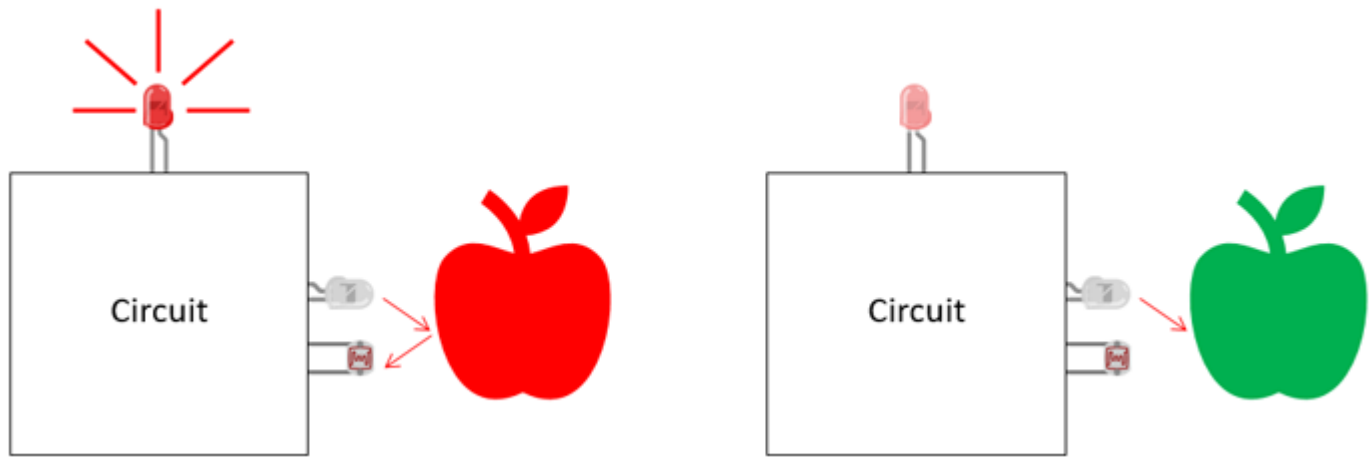

Figure 5. Concept for a color-detecting circuit to separate ripe (red) and unripe (green) produce.
In this section, you will use the information you learned in the previous section to build a circuit that can differentiate between red and green produce. It will light a second LED when red produce is placed in front of it, and the LED will stay off when green produce is placed in front of it (Figure 5). You will need to make some adjustments to get the circuit working perfectly. See the technical note for a more detailed explanation of how the circuit works (you do not need to fully understand how the circuit works in order to complete the project).
3) Your goal is to adjust the circuit such that the diffused red LED will *only* light up when you hold a piece of red produce in front of the clear red LED and photoresistor, but not when you use a piece of green produce, as shown in Figure 5. This lets you quickly identify whether a piece of produce is ripe just by looking at the LED. You can imagine how such a machine would be useful in a factory or farming setting to quickly and automatically identify, harvest, or sort ripe fruits and vegetables. Try adjusting some of the factors in the previous step to see if you can get the circuit to work to identify red and green produce. It may help to practice with squares of red and green construction paper first. How reliable is your circuit? Does it ever give a false positive (identify green produce as red) or a false negative (identify red produce as green)? See the variations section for more ideas about how to improve or modify your circuit.